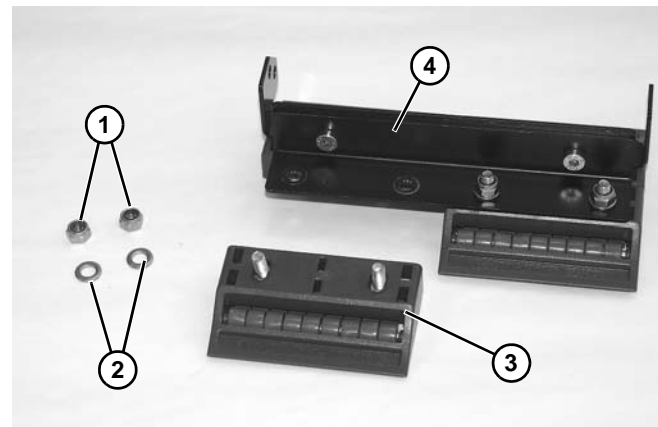

Figure 129
2. Remove nuts (Figure 129, item 1), washers (Figure 129, item 2), and roller transfer (Figure 129, item 3) from support bracket (Figure 129, item 4).